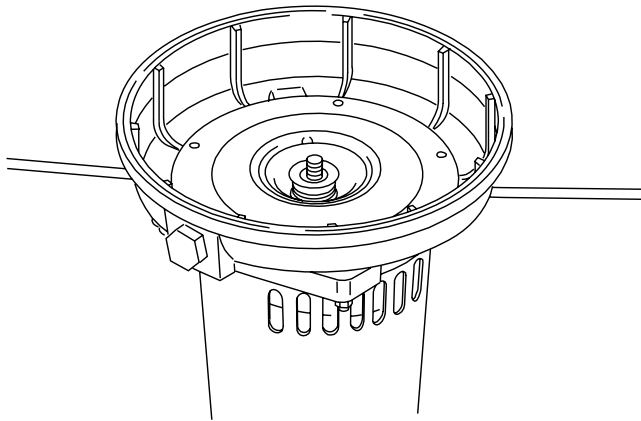

Figure 22 – Remove Seal plate
3. Unscrew four nuts holding pump back half to motor. Remove rotating half of seal by placing two screwdrivers under back half of pump body and **carefully** prying up (Figure 22). Back half of pump body will slide off shaft, bringing seal with it.